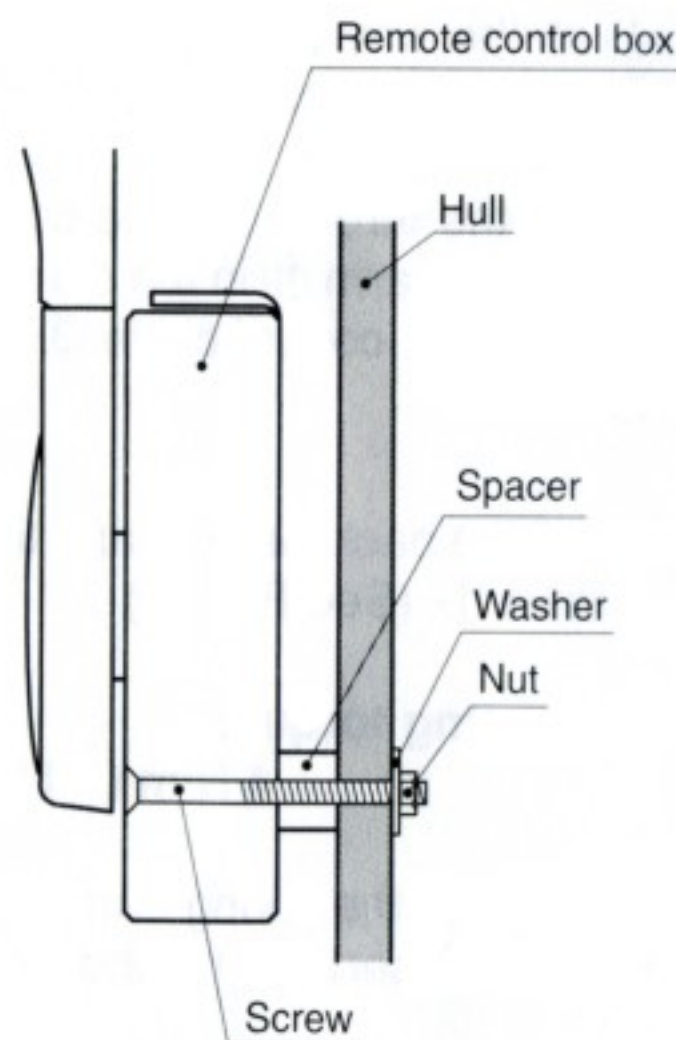

Fig. 18
- 3) As shown in Fig. 18, install the remote control box on the hull using three each of screws, spacers, washers and nuts that come supplied with the kit.